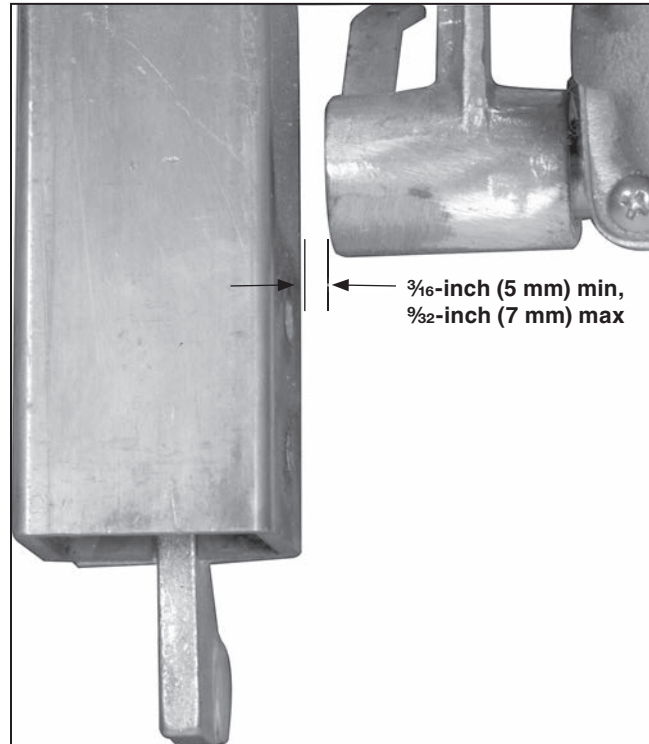

Figure 40. There should be a gap between the end of the interrupter lever shaft and the blade assembly.
- (g) Move the blade assembly *slowly* toward the closed position until the blade assembly is under the interrupter lever shaft. Verify the gap between the end of the interrupter lever shaft and the blade assembly is between $\frac{3}{16}$ -inch (5 mm) and $\frac{1}{2}$ -inch (7 mm) . See Figure 40.